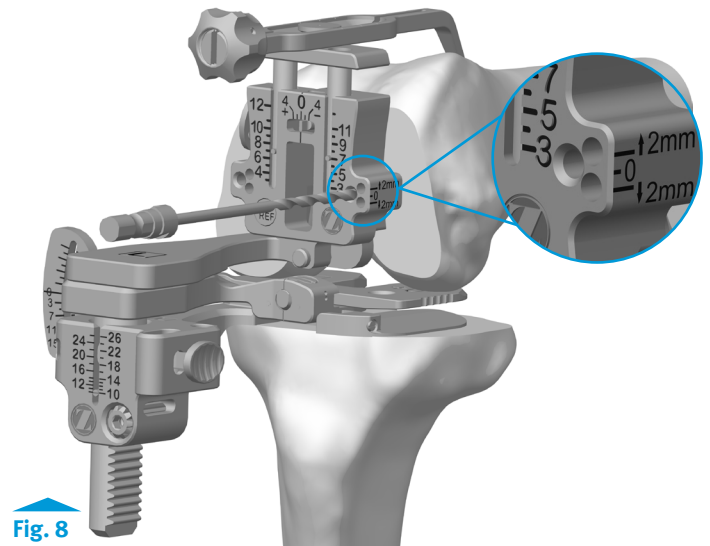

Fig. 8
- Position the tip of the *Zimmer FuZion* Sizer stylus onto the anterior cortex and size the femur (**Fig. 8**).
- If needed, use the +2mm/-2mm holes to adjust the flexion space as appropriate (**Fig. 8**).